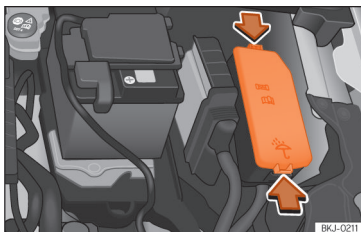

Fig. 159 In the engine compartment: lid of the fuse box.
- Press the locking tabs to unlock the fuse box cover »» Fig. 159.